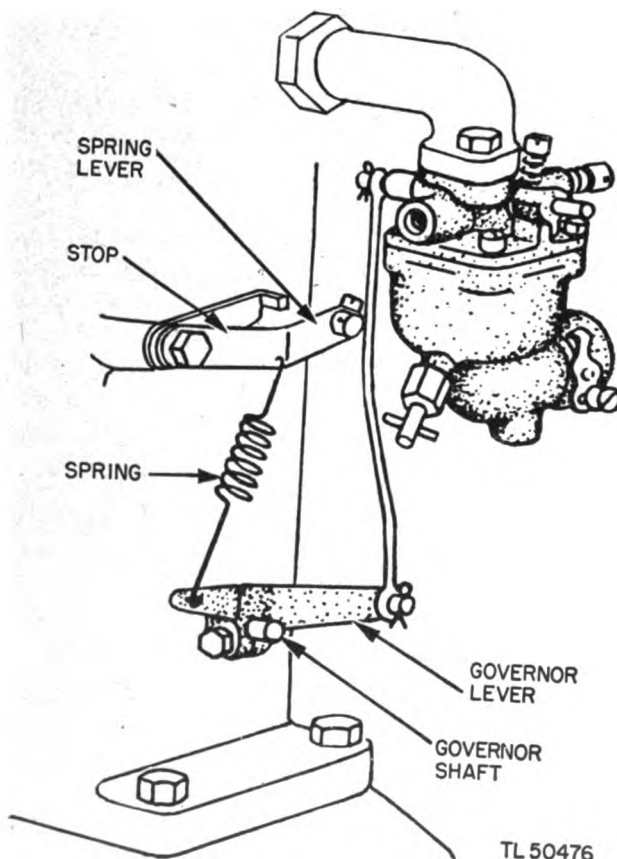

Figure 54. Governor hook-up on Briggs and Stratton engine.
b. *RESETTING GOVERNOR LEVER* (fig. 54). If the governor lever has become loosened or removed from the governor shaft, reset it as follows:
(1) With the carburetor attached to the engine and hooked up to the governor lever with the throttle link, loosen the screw holding the governor lever on the shaft.
(2) Push the governor lever toward the engine body as far as it will go. Hold it in this position and turn the governor shaft in a clockwise direction until it strikes a stop in the crankcase. Tighten the screw that holds the governor lever to the shaft until it is snug.
(3) Push the governor lever toward the end of the shaft and tighten the screw securely.